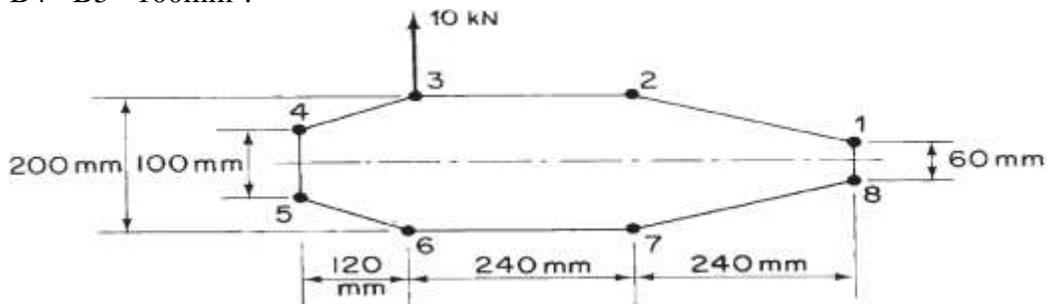

Fig 3
13. The thin-walled single cell beam shown in Fig.3 has been idealized into a combination of direct stress carrying booms and shear stress only carrying walls. If the section supports a vertical shear load of 10 kN acting in a vertical plane through booms 3 and 6, calculate the distribution of shear flow around the section. Boom areas: $B_1 = B_8 = 200 \text{ mm}^2$, $B_2 = B_7 = 250 \text{ mm}^2$, $B_3 = B_6 = 400 \text{ mm}^2$, $B_4 = B_5 = 100 \text{ mm}^2$. 16 CO2 [K4]